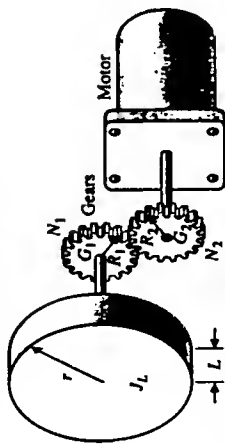

FIGURE P2.45 Motor, gears, and load.
2. An ideal set of gears is connected to a solid cylinder load as shown in Fig. P2.45. The inertia of the motor shaft and gear G_1 is J_m . Determine (a) the inertia of the load J_L and (b) the torque T at the motor shaft. Assume the friction at the load is f_L and the friction at the motor shaft is f_m . Also assume the density of the load disk is ρ .